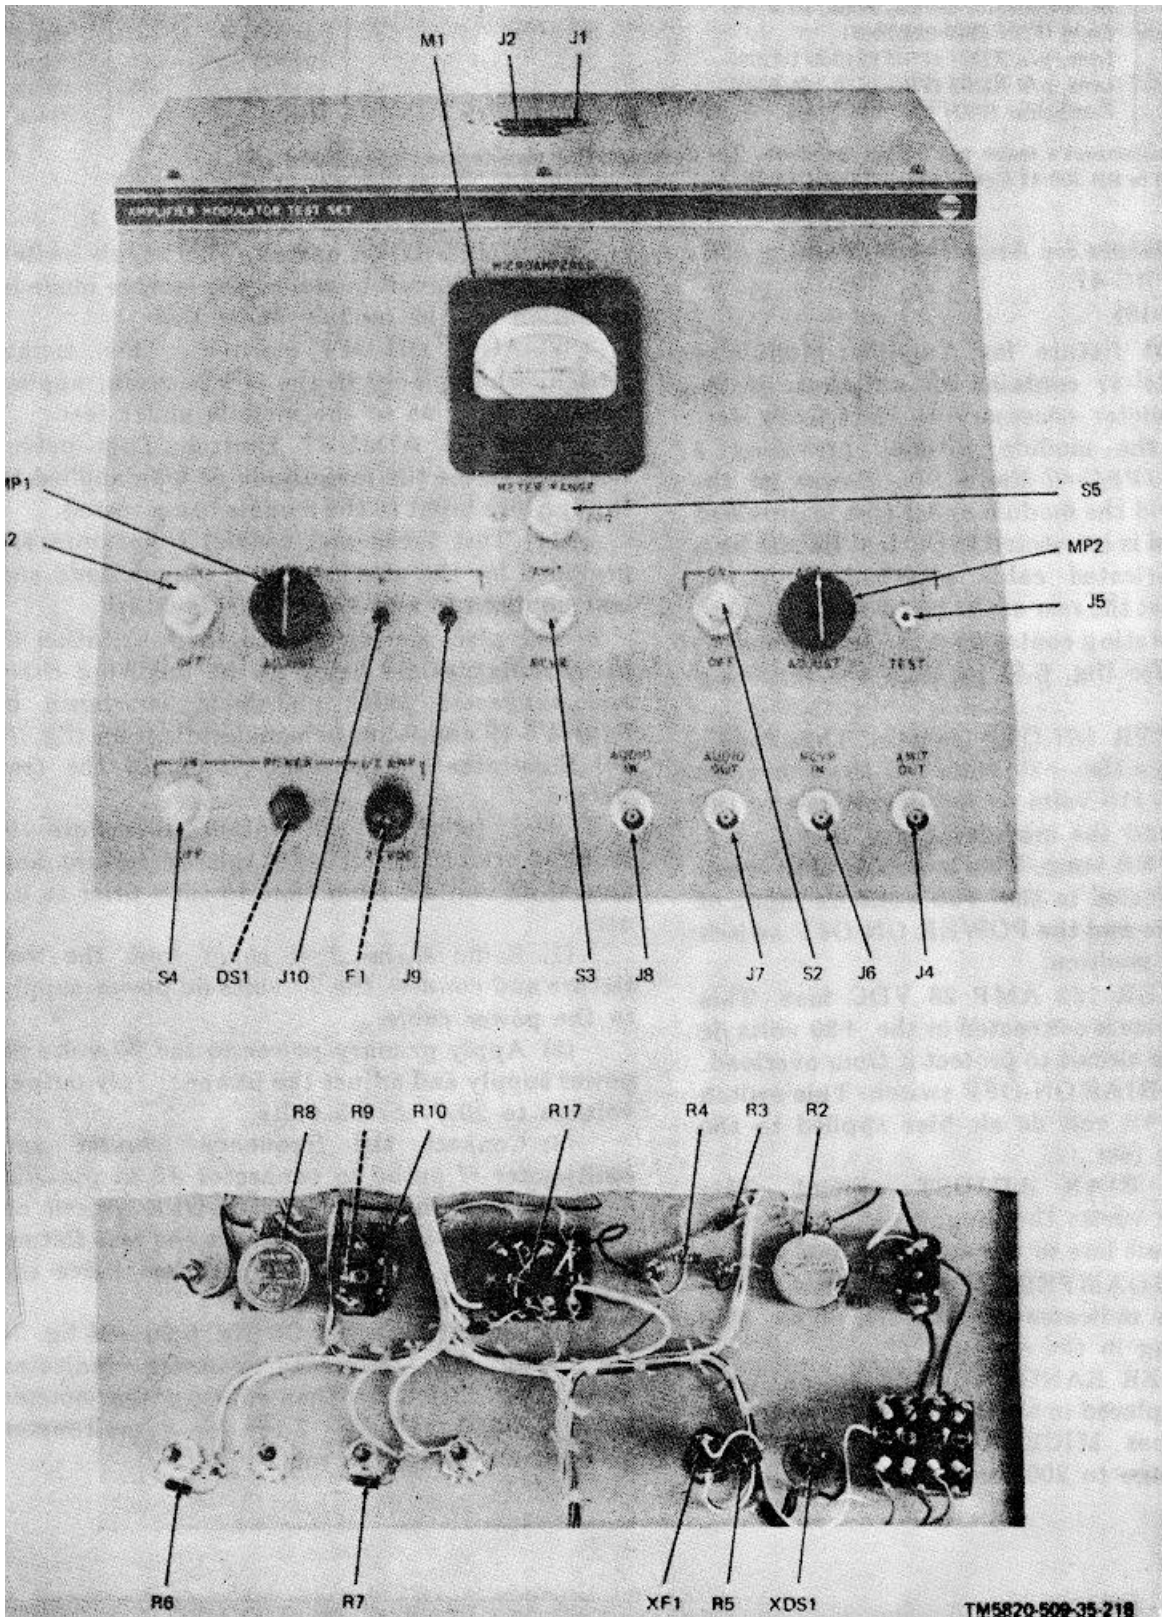
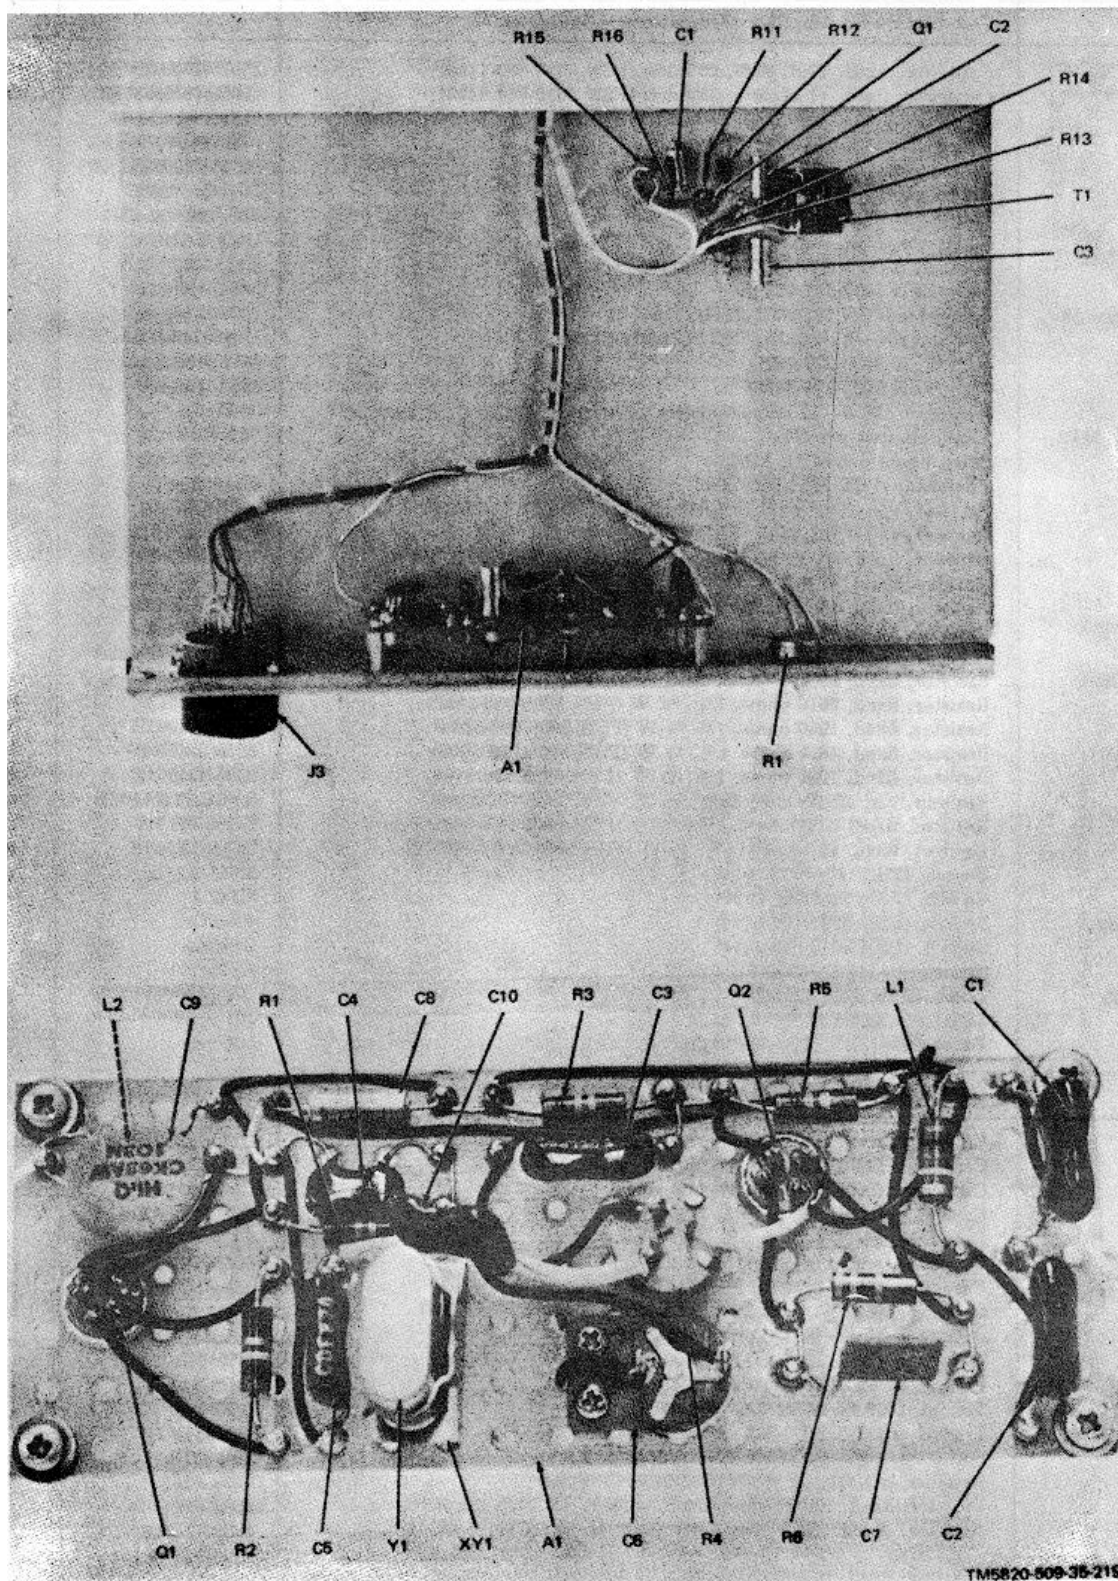

Figure 6-19. Test Fixture for Amplifier-Modulator AM-3507/PRC-47 Parts Location.
Figure 6-20. Test Fixture for Amplifier-Modulator AM-3507/PRC-47, Chassis Parts and Subassembly A1 Placement.
(2) POWER lamp. This indicator is lit when power is connected to the +20 volts dc input of the teat fixture and the POWER ON-OFF switch is in the ON position.
(3) POWER 1/2 AMP 28 VDC fuse. This protective device is connected in the +20 volts dc primary power circuit to protect it from overload.
(4) ALC BIAS ON-OFF switch. This switch controls the +6 volt dc alc bias applied to the module under test.
(5) ALC BIAS ADJUST control. This potentiometer varies the magnitude of effective bias on the -alc line to the module being tested
(6) MICROAMPERES meter. This 0 - 50 microammeter indicates the amount of alc bias current flowing in the module.
(7) METER RANGE 50 - 200 switch. This switch, when placed in the 200 position, connects a shunt across MICROAMPERES meter to extend its range to 200 microamperes.
(8) XMIT RCVR switch. This toggle switch selects the transmit mode, or the receive mode of operation for the module under test.
(9) AGC ON-OFF switch. This toggle switch, when placed in the ON position, applies positive agc bias to the module under test.
(10) AGC ADJUST control. This potentiometer varies the magnitude of bias applied to the agc bias input to the module being tested.
(11) Test jacks and coaxial connectors are provided for the attachment of signal leads and test equipment and are self-explanatory.
c. The piece parts required for fabrication of the test fixture are listed in the following chart and suggested parts placement is shown in figures 6-19 and 6-20. Schematic diagram (fig. 716) illustrates the internal circuit of the test fixture.
(1) Remove the dust cover from the test fixture and connect the 20 volts dc power supply to the power cable.
(2) Apply primary power to the 20 volts dc power supply and adjust the power supply output voltage to 20.0 ± 0.5 volts.
(3) Connect the frequency counter and multimeter rf probe to connector J2 at pin A2.
(4) Place the POWER ON-OFF switch on the test fixture to ON and permit the test fixture to stabilize for at least five minutes. Place the XMIT-RCVR switch to XMIT.
(5) Adjust capacitor C6 (fig. 6-20 and fig. 7. 16) until the frequency counter indicates 500,000.00 ± 1.0 Hz; then adjust potentiometer R4 (fig. 6-20 and fig. 7-16) for a multimeter reading of +1.5 volts rms.